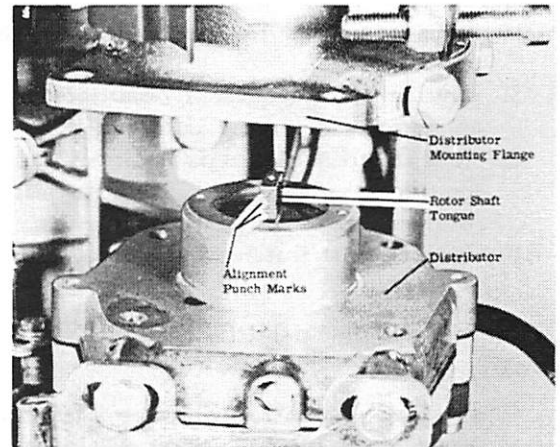

Figure 2. Timing Mark on Offset Tang Face
2. The offset face of the tang is considered the timing mark. (Figure 2) Drive shaft spring is located in ground out portion which is closest in line with timing belt pulley keyway. This spring has to line up with ground off portion of distributor drive tab before assembling distributor to distributor pilot assembly.